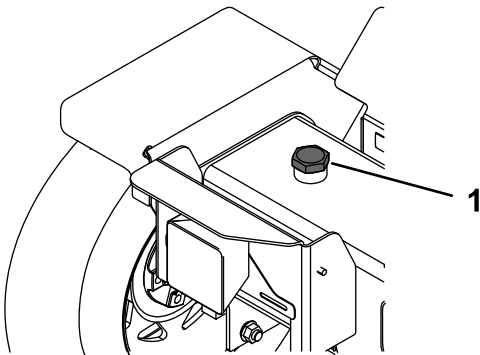

Figure 34
8. If the fluid level is low, remove the filler plug and slowly add hydraulic fluid into the reservoir to raise the level to the upper notch on the dipstick (Figure 34).